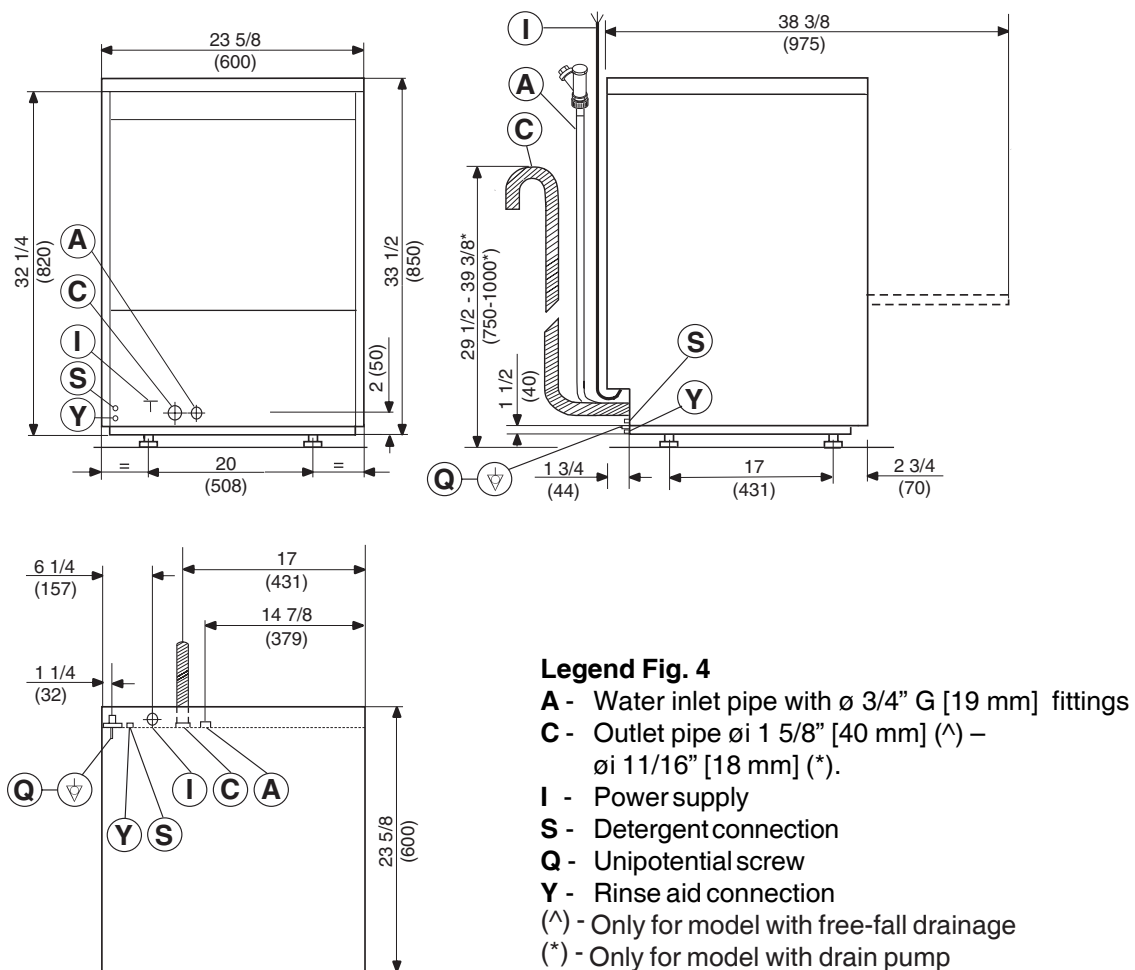

Fig. 4
- Connect the appliance water supply pipe "A" (Fig.4) to the mains, fitting a cut-off cock, the filter provided and a pressure gauge between the appliance and the mains (Fig. 6).
- Connect the earth wire of the power supply cable to an efficient earth clamp. The appliance must also be included in a unipotential system, the connection being made through the screw "Q" (Fig.4) marked with the symbol "⏏". The unipotential wire must have a cross section of AWG 8 [8,35 mm²].